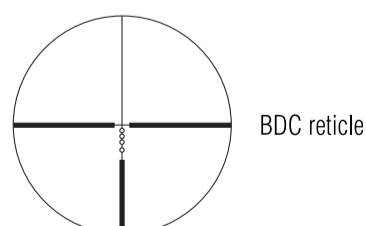

Fig. 3-1
(1) Focusing
- 1 Look through the eyepiece with your eye positioned about 10cm (4 in) away from the eyepiece lens, and you will see the BDC reticle (Fig. 3-1). Be sure your eye is positioned within proper alignment and proper eye relief otherwise the view will "black out".
(2) Magnification
(3) Adjustment of the riflescope